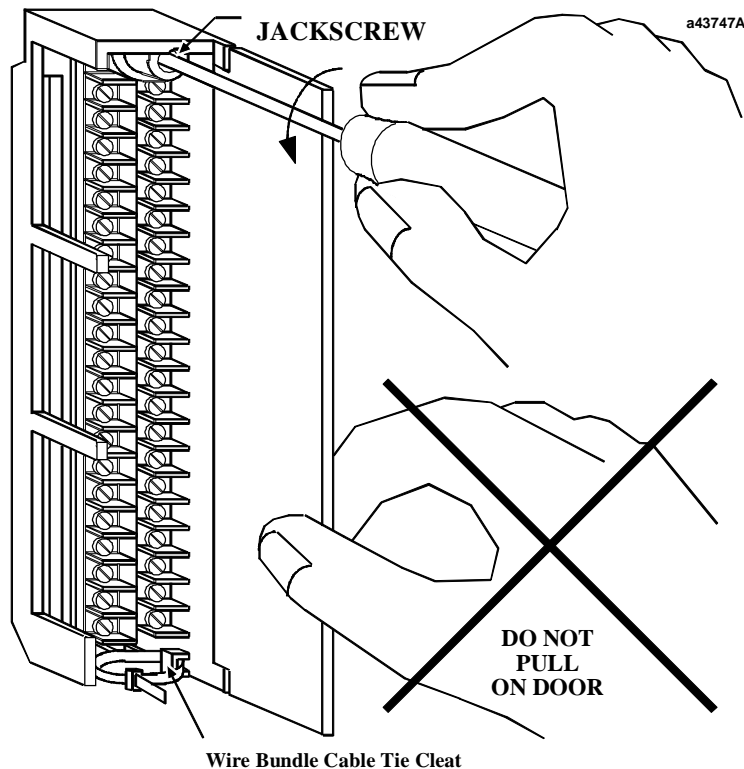

Figure 4. Removal of I/O Terminal Board
2. To remove the terminal board, grasp the top of the terminal board and swing it outward. See Figure 4.